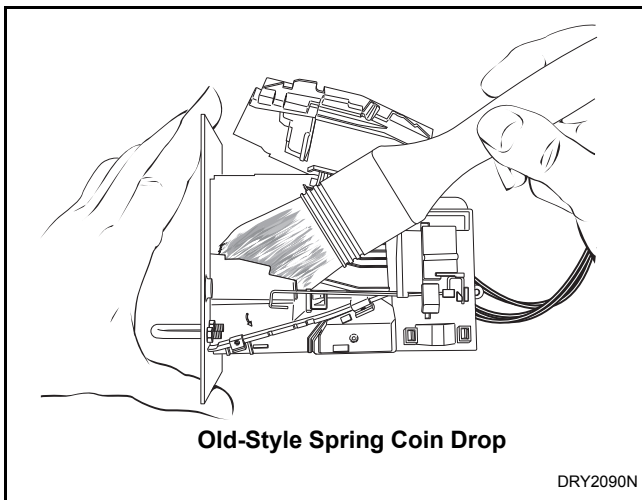
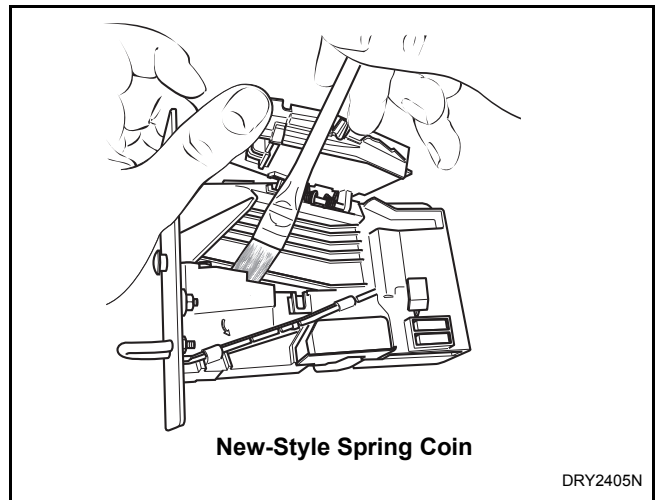

Figure 28
Figure 29
- d. Clean the coin path with a soft brush and wipe exposed surfaces with an alcohol moistened cloth. Refer to *Figure 28* or *Figure 29*.